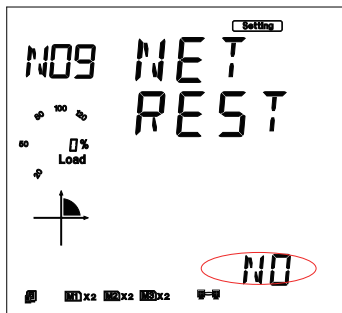

Fig 5-37
11. Set resetting mode in the ninth setting page. Select "RESET" to reset the module. Selecting "NO" will not reset the module. Selecting "DEFAULT" will load the module with default settings and reset module. Press the "V/A" key to go to the setting page and the parameter pointed out in Figure 5-37 will flash. Press the "P" or "E" key to select the configuration mode. Press the "V/A" key to accept.